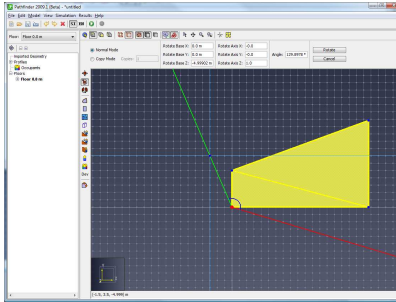

Figure 141. Reference line (red) and rotation angle (green)
- The second defines a reference vector extending from the rotation base (Figure 141).